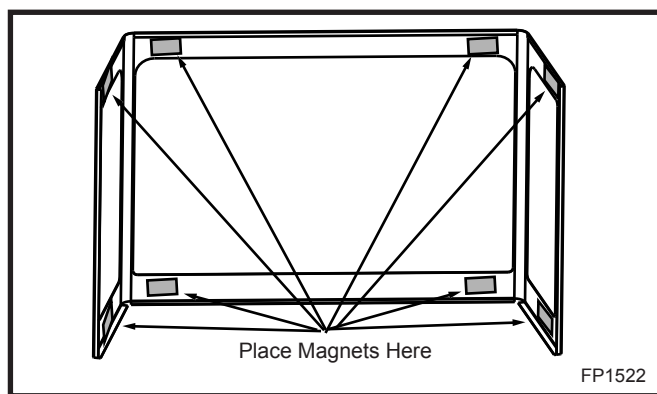

Fig. 53 RFSDV34TKA magnet locations.
3. Attach the magnets to the trim. (Fig. 53)